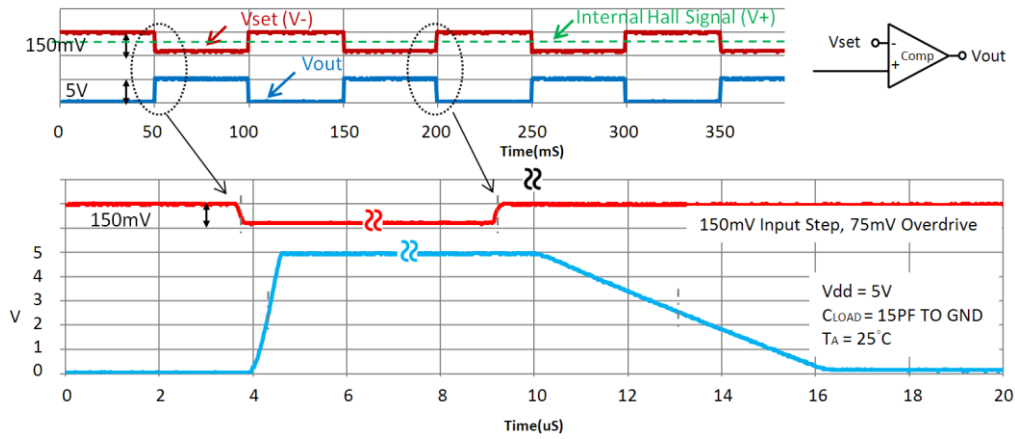

Figure 1
3. Response time can refer to "characteristic Diagrams" Fig.1~3.